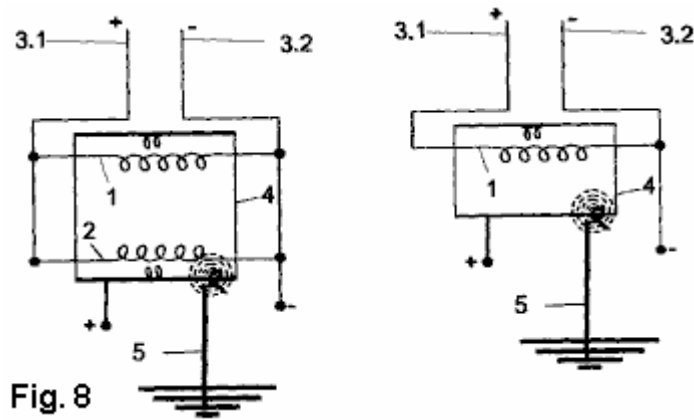

Fig. 8
**Fig.8** shows how connections should be made in another electric circuit electron-trap proposed in this invention. the circuit illustrates a circuit of an electron-trap with a non-polarised link / coil driver **4**. This is one form of construction of the electron-trap where a link / coil conductor **4** of the spiral conductor coils **1** and **2** is not polarised, that is, there is no such link connecting conductor / conductor coil conductors **4** of a coil **3.1** or **3.2**.